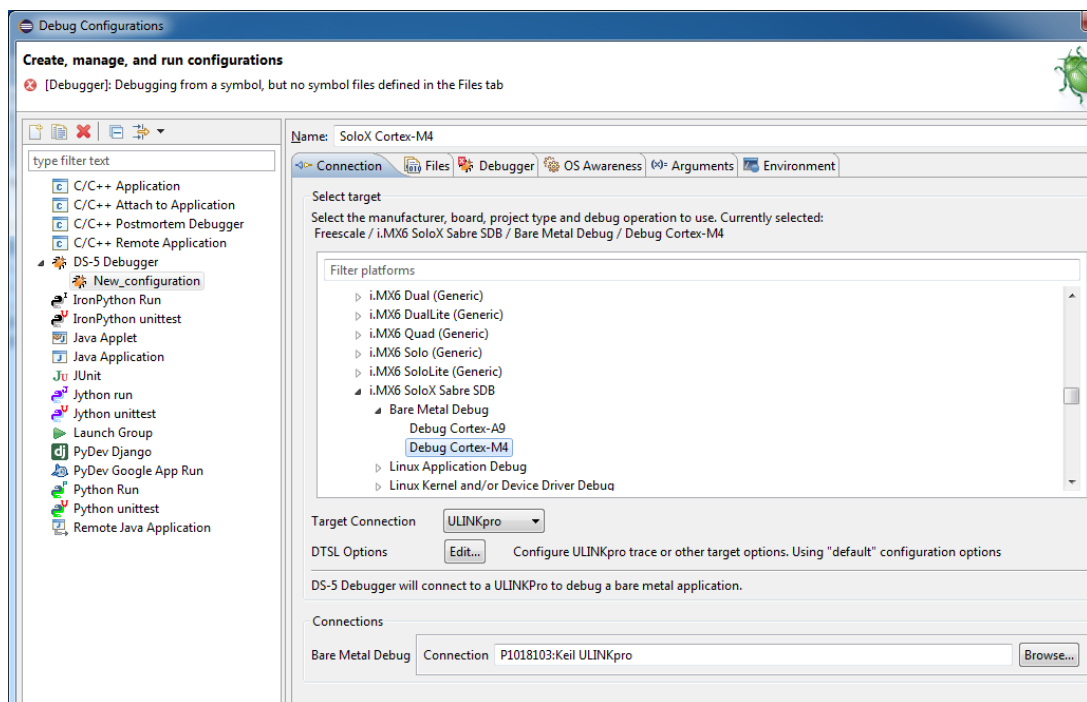

Figure 10 - Setup Debug Connection
3. Give the configuration a name such as SoloX Cortex-M4 and then select the “Connection” tab as shown in Figure 10.
4. In the “Connection” tab go to NXP → i.MX6 SoloX Sabre SDB → Bare Metal debug and choose “Debug Cortex-M4” as shown in Figure 10.